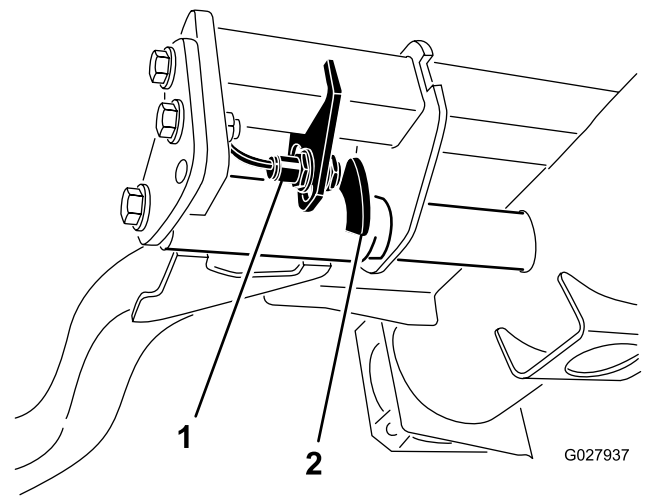

Figure 36
2. The lift-arm switch is located underneath the hydraulic tank behind the front, right lift arm (Figure 36).
3. Loosen the switch-mounting screws (Figure 36) and move the switch down to increase the lift-arm turnaround height or move the switch up to decrease the lift-arm turnaround height.